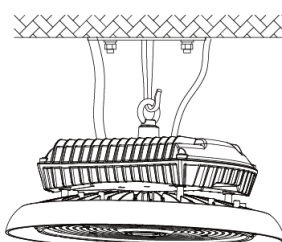

Fig. 2.1
2. Hang the fixture on the ceiling hook or chain. (Fig. 2.1 and 2.2)